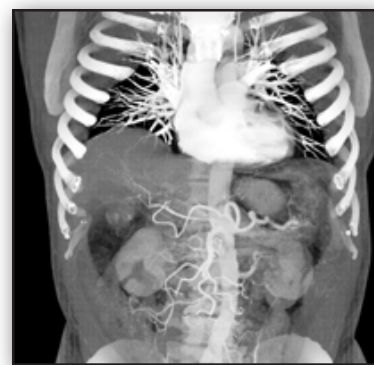

FIGURE 1.14: Faded MIP allows better viewing of foreground structures than traditional MIP
**Faded MIP (Available only in parallel rendering):** Faded MIP is unique to Fovia. A Faded MIP rendering is similar to MIP. However, in Faded MIP voxels become darker as they increase in distance from the camera. In a conventional MIP rendering, the voxel with the highest Hounsfield value (or other dataset unit) along the ray path is always displayed. This can cause foreground structures of lower density to become obscured by background structures of high density. Use of Faded MIP rendering allows better visualization of foreground structures in these cases. (Figure 1.14)